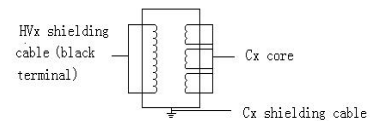

Figure 9 CT connection
A. See Figure 9
A. See Figure 9(core connect to end shield)
(3) Primary side to secondary side and ground